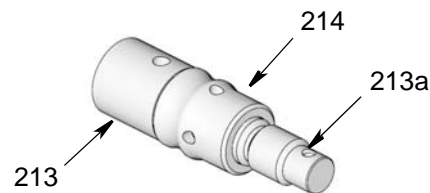
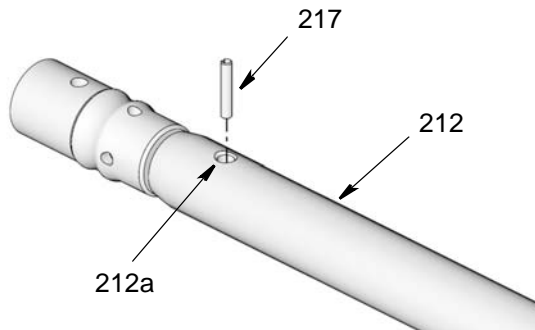

FIG. 38
FIG. 39
5. Slide together piston rod (213) and piston seal (214) (FIG. 38).
6. Thread piston rod (213) into end of displacement rod (212). Hand tighten the two pieces together securely, ending with hole (213a) (FIG. 38) aligned with hole (212a) (FIG. 39).
- Install pin (217) through the aligned holes [(213a (FIG. 38) and 212a (FIG. 39)]. Support rods (212 and 213) as needed to ensure the rods do not bend. Use a pick and hammer to seat the pin inside the rods.